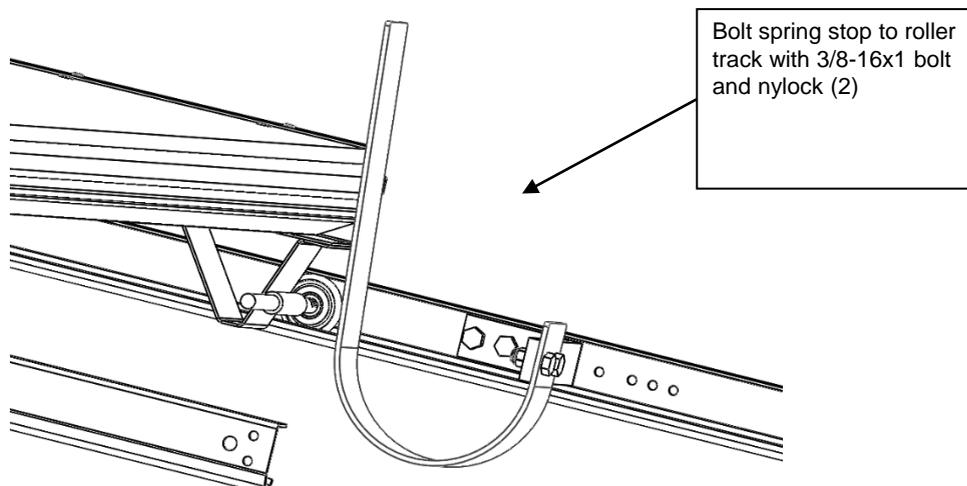

Figure 22 Spring Stop Mounting
2. Mount the Spring Stops as shown in **FIGURE 22**